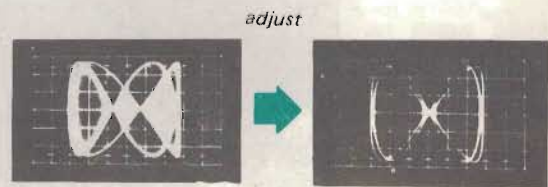

Fig. 3-12 Lissajous pattern
- (2) Adjust the oscilloscope controls to obtain a visible indication. Be sure the scope's horizontal display switch is set for external input.
- (3) Turn the pilot-signal (19 kHz) phase control to obtain an in-phase and stable lissajous pattern as shown in Fig. 3-12.